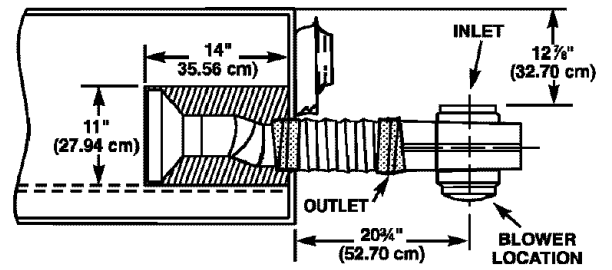

Figure 14
3. Make cutout in the cabinet floor of either the right or left side cabinet as shown in figures 14 or 15.